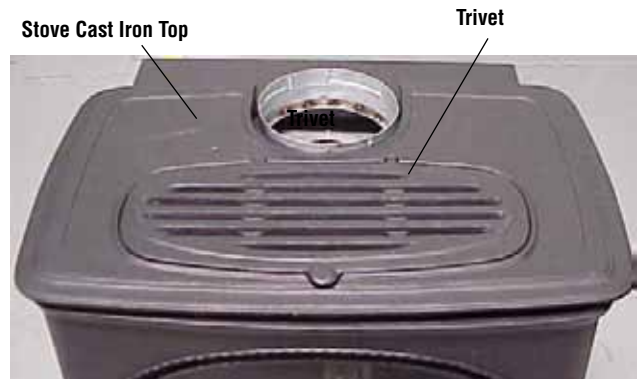

Figure 32
- A. Place the cast iron top into position on the stove top (See **Figure 32**). Place the trivet into the recess on the cast iron top (See **Figure 32**).